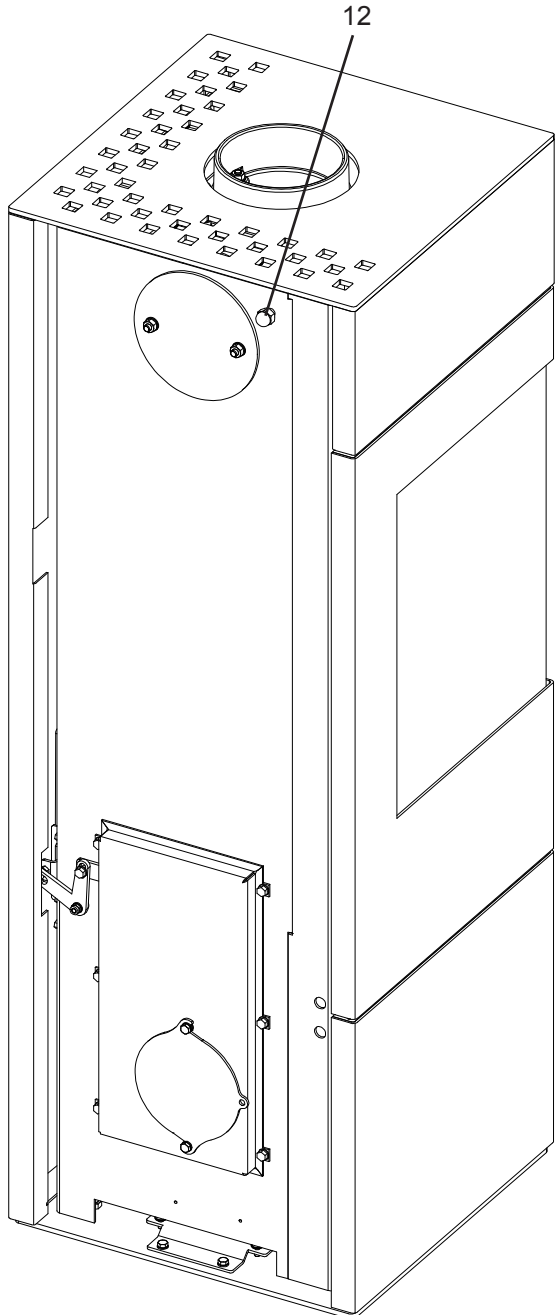

Fig.12
- Install the temperature sensor (fastening position on the back side of the unit, see Fig.12) as described in chapter “General installation steps”, step 4+5.